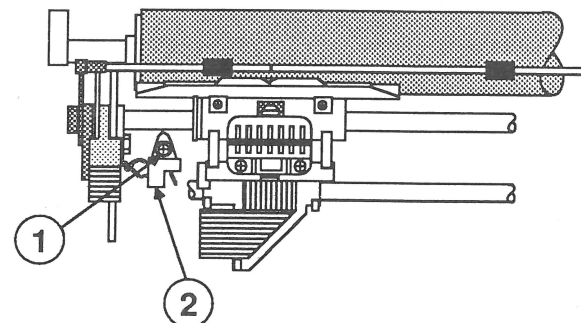

FIGURE 2
4. Using a phillips screwdriver, remove the screw (Figure 2, #1) that holds the home position switch (Figure 2, #2) in place. Save this screw, as you will use it for the new switch.